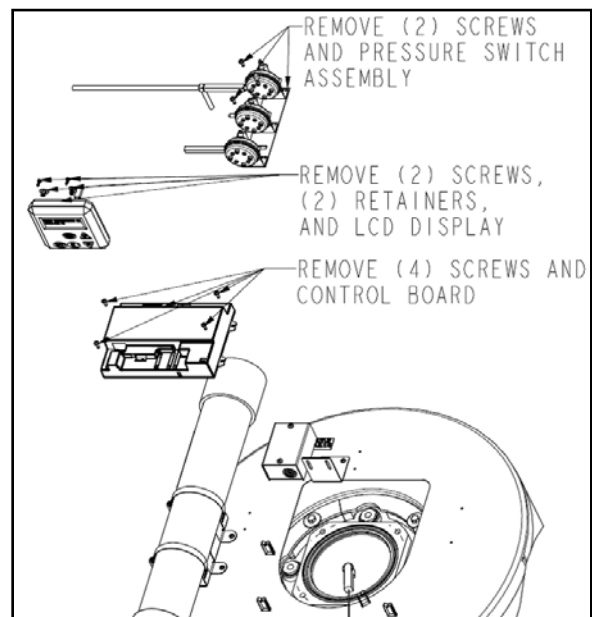

Figure 4
9. Remove the pressure switch assembly, LCD display, and Control Board from the heater. (Figure 4)
- a. Remove (2) screws, wiring, and tubing from pressure switch assembly to remove assembly from heater.
- c. Disconnect LCD wiring connection and remove the (2) screws in the back of the LCD bracket.
- e. Disconnect the wiring harnesses from the Control Board and the (4) screws mounting the controller to the heater.